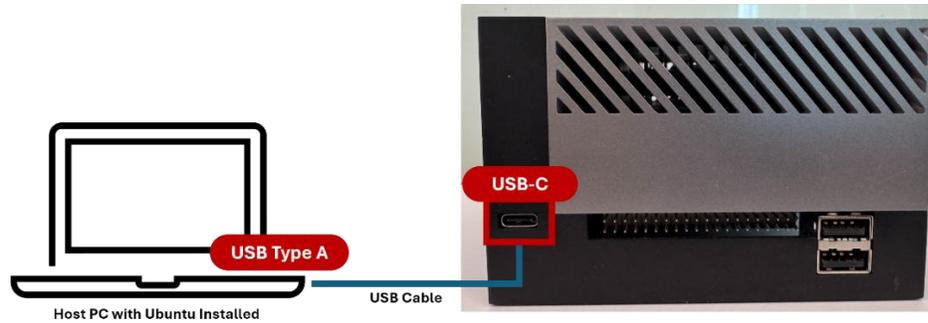

Figure 6.5. Ubuntu Host PC and Jetson AGX Orin Developer Kit Setup
1. Set up an Ubuntu 22.04 host PC with at least 8 GB of RAM and an internet connection. Connect the Ubuntu host to the Jetson AGX Orin using a USB cable as shown in Figure 6.5.